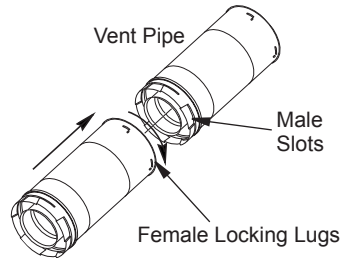

Figure 12 - Vent Pipe Connections
Twist-lock Procedure: The female ends of pipes and fittings have 4 locking lugs (indentations). These lugs will slide straight into matching slots on the male ends of adjacent pipes and fittings. Push pipe sections together and twist one section clockwise approximately one-quarter turn until the sections are fully locked (see Figure 12). *Note: Horizontal runs of vent must be supported every 3 feet. Use wall straps for this purpose.*
2. Assemble desired lengths of pipe and elbows necessary to reach from the burner system flue up through the firestop. Be sure all pipe and elbow connections are fully twist-locked (see Figure 12, page 12).